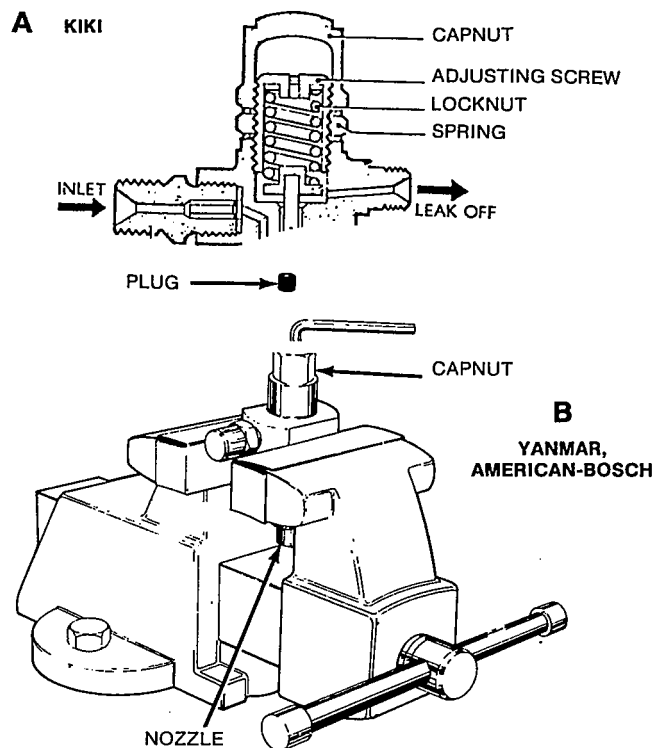

FIGURE 22a. NOZZLE ADJUSTMENT
1. Remove cap nut, Figure 22a.
1. Remove plug from cap nut, Figure 22a.